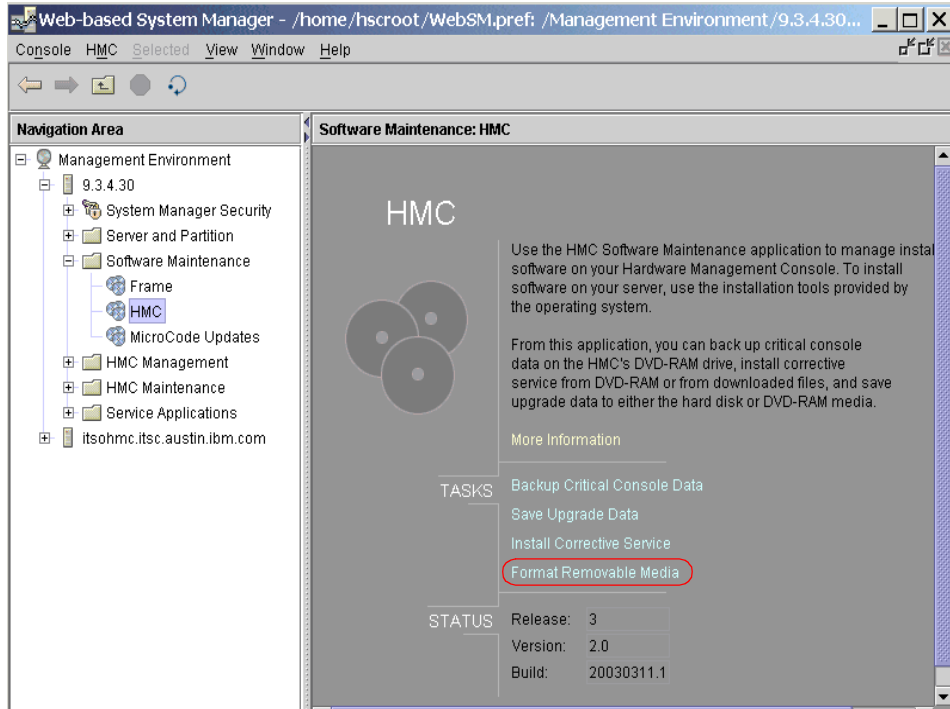
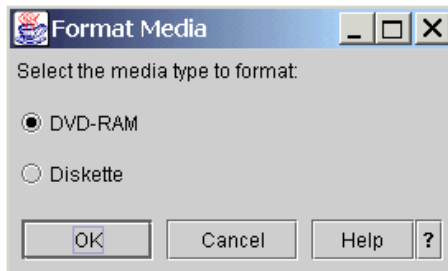

Figure 5-12 Software Maintenance: HMC
Figure 5-13 Format Media
1. Before the upgrade, verify the current HMC software version by selecting **Software Maintenance** -> **HMC** as shown in Figure 5-12.
2. Select **Format Removable Media** (see circle section in Figure 5-12) -> **DVD RAM** (see Figure 5-13) to format the DVD RAM which will be used for back up.